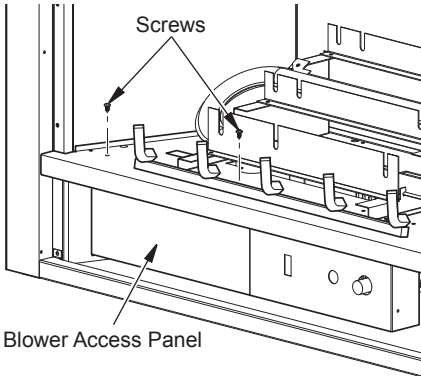

Figure 6 - Removing Blower Access Panel
1. **CRHFD32RT-M-MO and FBD32 Series Only** Remove 2 screws securing panel as shown in Figure 6. Remove panel to gain access to blower compartment.